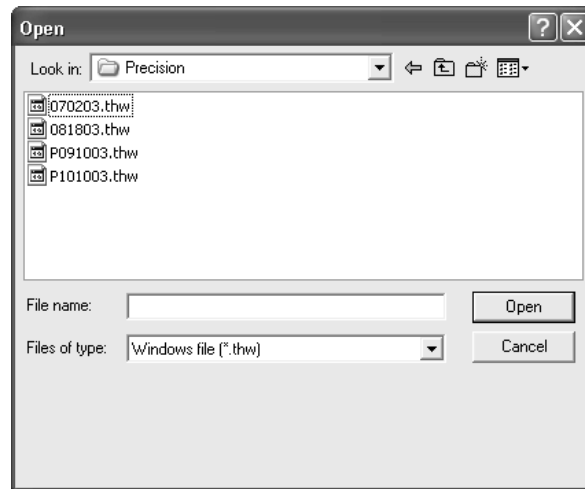

Figure 4-17: The Open Dialog for Importing Standard Curves
- 2) The Open dialog opens (Figure 4-17).